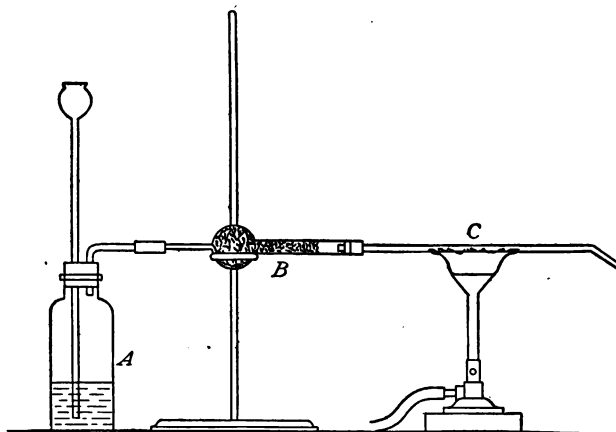

FIG. 20
**27. Reduction.** Arrange an apparatus according to Fig. 20, in which a hard-glass tube *C*, about 30 cm. long and from 8